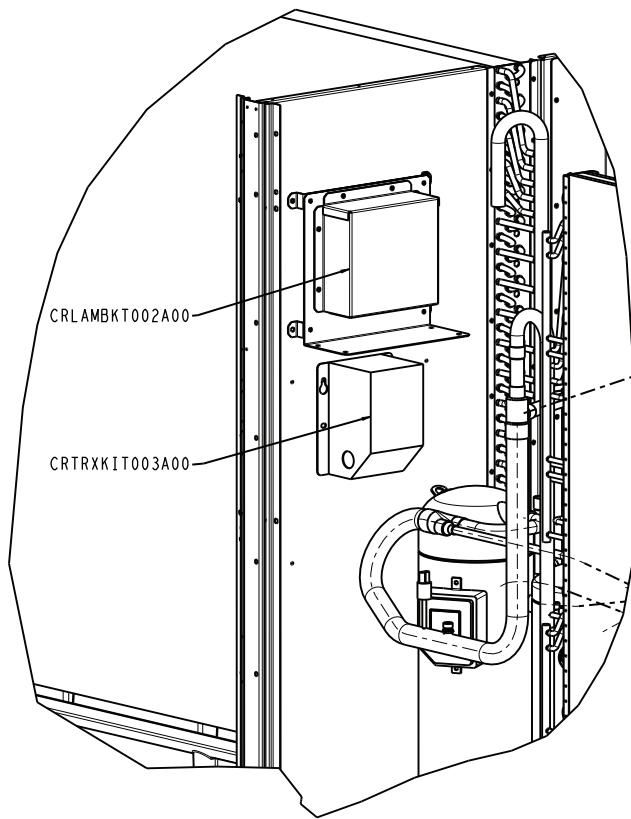

Fig. 10 — Cabinet B — Controller and Transformer Installation Locations
7. Install the controller assembly (refer to A in Fig. 1) in the location shown in Fig. 10 using the mounting brackets. Refer
IMPORTANT: Do not screw into the base pan of the unit. Only screw into the side wall as shown in Fig. 10.